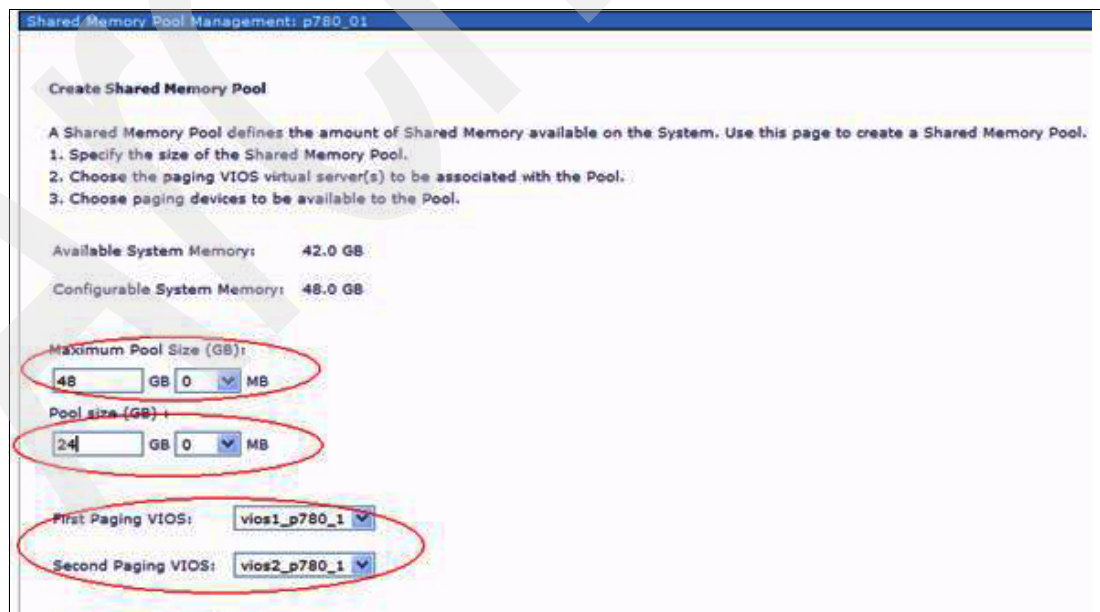

Figure 6-39 Shared memory pool creation with SDMC (page 2 of 4)
5. The Create Shared Memory Pool window opens, as shown in Figure 6-39.